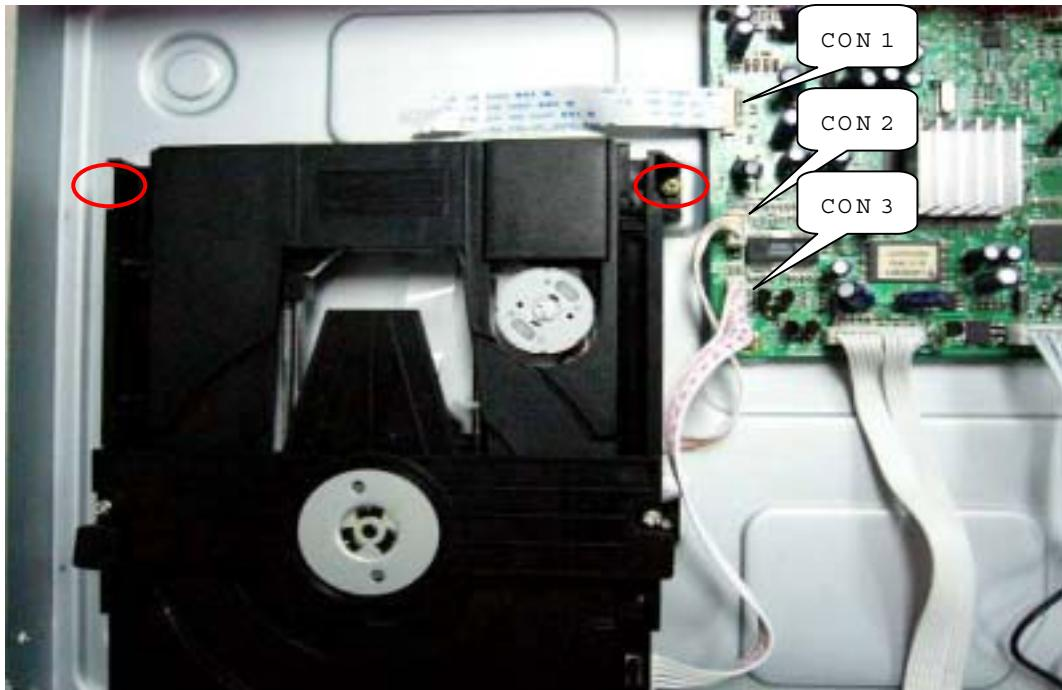

Figure4
Step3 : Dismantling Loader; First, disconnect the 3 connectors aiming in the figure, and then remove the 2 screws at both sides of the bader, (Figure 4)